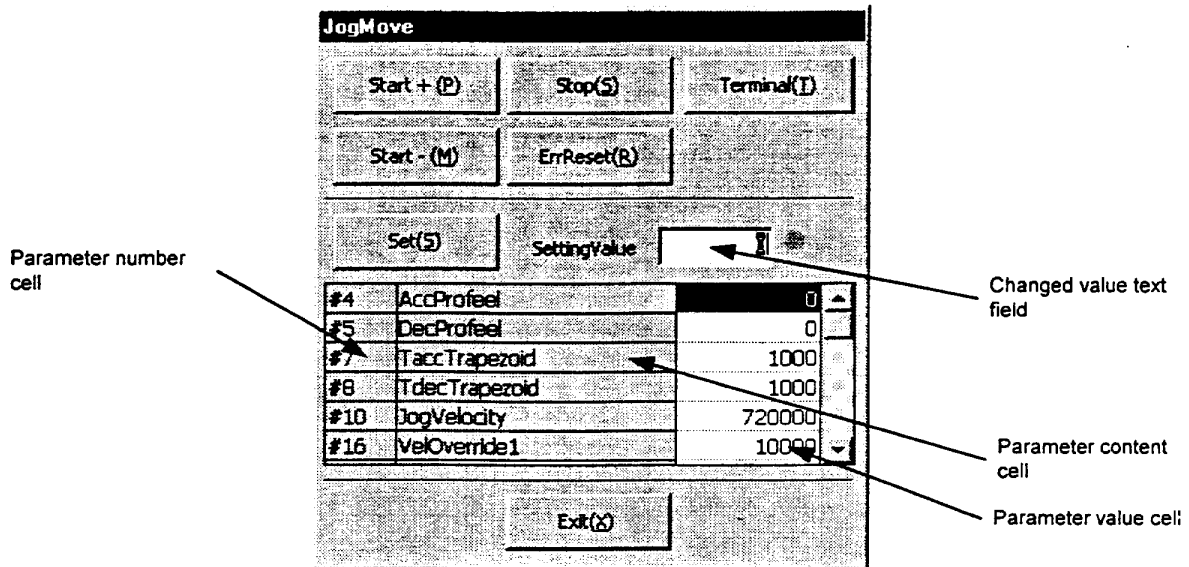

Figure 7.26 "JogMove" dialog box
Click "Jog (J)" in the "DriveMenu" dialog box to display the "JogMove" dialog box (see Figure 7.26). If the connection with the driver is established, the current values of the related parameters are read and can be edited.